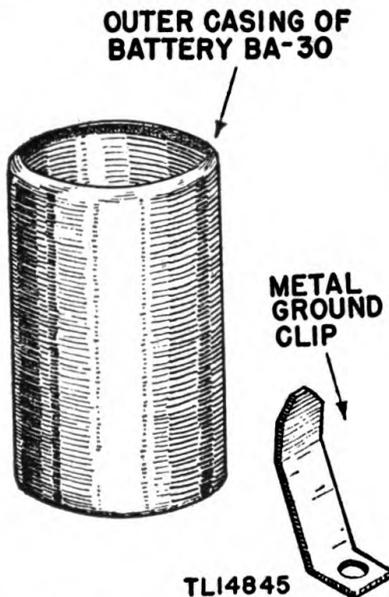

FIGURE 27.2.—Shield and clip for VT-148.
(1) Remove the crimped-over bottom portion of the outer casing of battery BA-30. Use an emery wheel, file, or any appropriate tool available.
(2) Remove and discard the inner zinc cell and cardboard separator which is between the cell and the outer casing.
(3) Clean the outside of the casing down to the bare metal using a wire wheel, paint remover, sandpaper, or other means. This is necessary to insure good electrical connection between the shield and the ground clip.
(4) Push the shield down over tube VT-148 until the bottom of the shield is flush with the bottom of the tube base.
(5) Using tinner's shears or a hacksaw, cut a ground clip spring strip approximately $\frac{3}{8}$ inch by $1\frac{1}{2}$ inches from any available piece of copper or brass. (See fig. 27.2.) The material used should retain some spring when bent.
(6) Drill a hole or cut a slot in one end of the clip just large enough to allow fitting under the head of the screw located on the chassis between the socket of tube VT-148 and the coil shield facing the front panel.
(7) Clean the strip with sandpaper and smooth the edges with a file to remove burrs.
(8) Loosen the screw on the chassis and scrape the area under and adjacent to the screw to insure good electrical contact.
(9) Bend the ground clip as shown in figure 27.2 and fasten the clip under the head of the screw on the chassis.
(10) Insert VT-148 and the shield into the socket.
(11) Adjust the spring tension of the ground clip so that it makes firm electrical contact with the side of shield.